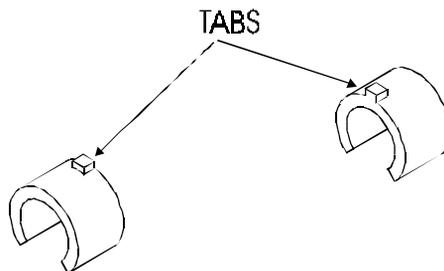

Figure 5-19. Carriage Bushing Installation.
5. Orient the new Bushing as shown in Figure 5-19 so that the metal tab on top of the Bushing goes into the Carriage Assembly first.